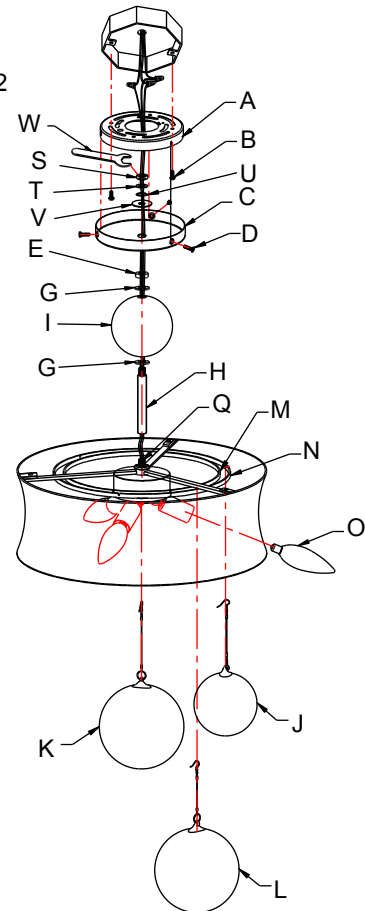

Fig. 4
CONNECTING THE WIRES (Fig. 4)
7. Connect the electrical wires as shown in figure 4, making sure that all wire connectors are secured. If your junction box has a ground wire (green or bare copper), connect the fixture's ground wire to it. Otherwise, connect the fixture's ground wire directly to mounting plate (A) using the green screw provided.
6. Connect the electrical wires as shown in figure 4, making sure that all wire connectors are secured. If your junction box has a ground wire (green or bare copper), connect the fixture's ground wire to it. Otherwise, connect the fixture's ground wire directly to mounting plate (A) using the green screw provided.